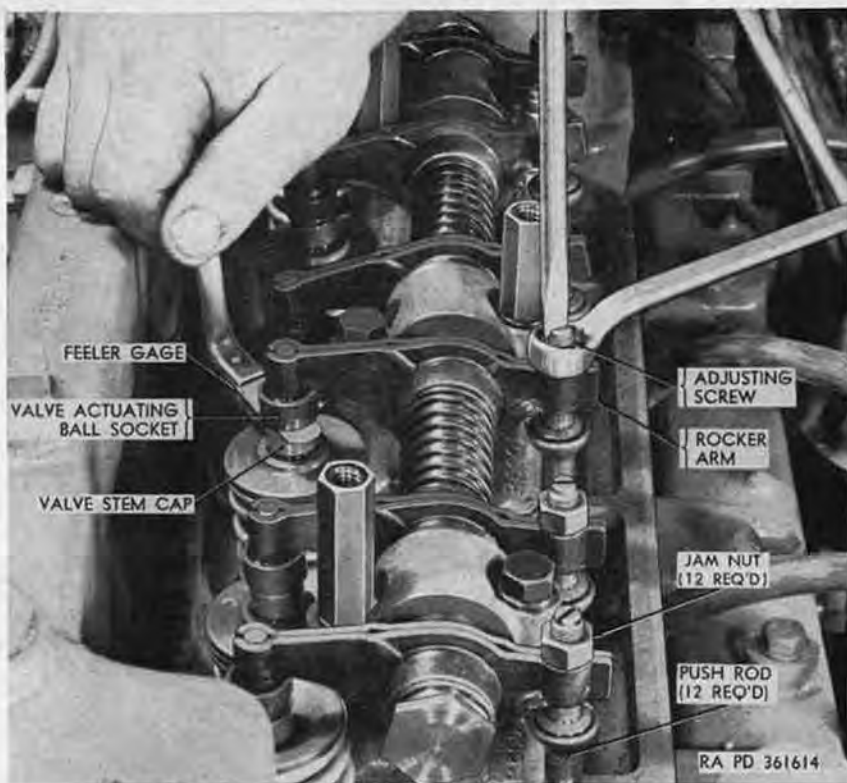
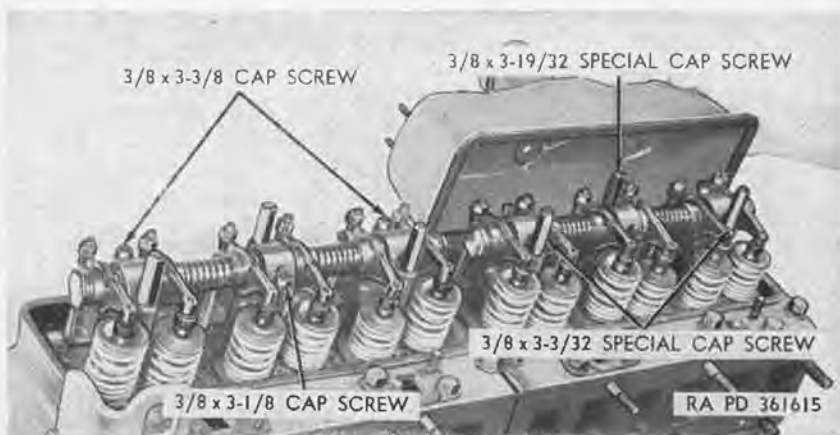
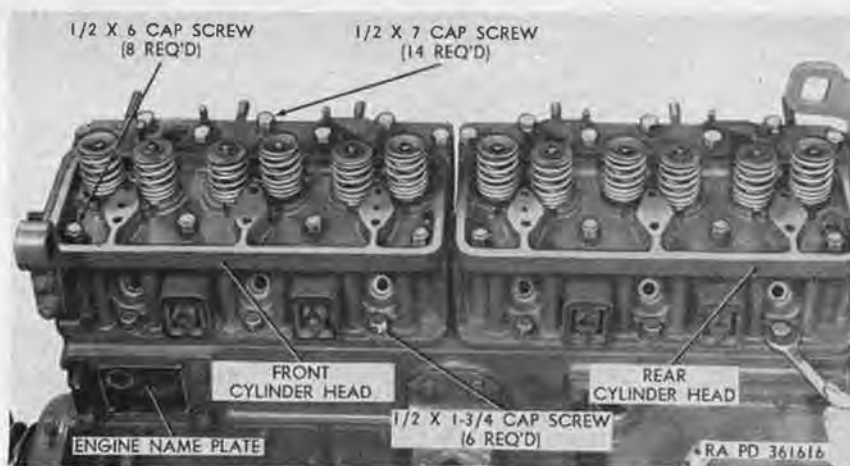
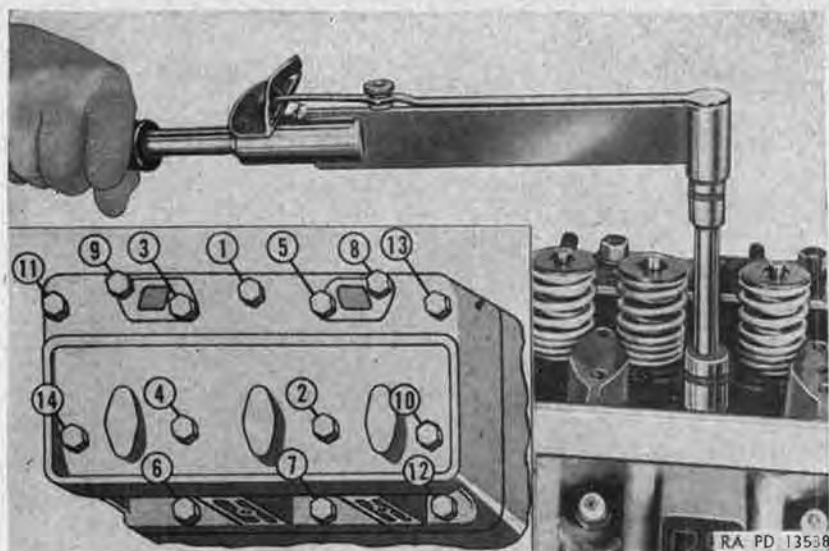

Figure 123. Adjusting valve clearance.
Figure 124. Top right view of engine with manifolds and rocker arm covers removed.
Figure 125. View of left side of engine showing location of head bolts.
Figure 126. Cylinder head bolt tightening sequence.
- (a) Disconnect vacuum line (H) from elbow at intake manifold.
- (b) Disconnect distributor vent line (X) from tee at intake manifold.
- (1) Start engine and check temperature gage (par. 31) to be sure that engine coolant is still at normal operating temperature.
- (2) With engine idling, insert feeler gage between valve stem cap (fig. 123) and valve actuating ball socket at each valve to check for proper clearance (par. 106c).
- (3) If clearance is incorrect, using a wrench and screwdriver, loosen valve-adjusting-screw-jam nut (fig 123) and turn adjusting screw (clockwise to decrease, counterclockwise to increase) until proper clearance is obtained.
- (4) Hold screw in adjusted position, tighten jam nut, and again check clearance.
- (5) Repeat (2), (3), and (4) above until all valves are adjusted to recommended clearance.
- (1) Remove intake and exhaust manifolds (par. 110).
- (2) Remove water inlet header and water-outlet-header assembly (par. 139).
- (3) Remove valve rocker arm covers (par. 108b).
- (4) Remove 12 cap screws (fig. 124) securing 6 valve rocker arm shaft supports (fig. 123) to top of front and rear cylinder heads, and remove front and rear rocker arm assemblies.
- (5) Lift 12 valve push rods (fig. 123) from front and rear cylinder heads, and remove 12 valve stem caps from intake and exhaust valves.
- (6) Remove water pump retaining nut and washer from stud on front end of front cylinder head.
- (7) Remove 28 cylinder-head screws (14 from each head) (fig. 125), and lift front and rear cylinder head assemblies from crankcase. Remove and discard both cylinder head gaskets.
- (3) Place front and rear cylinder head assemblies in position on crankcase and install the 28 cylinder head screws (fig. 125). Using a torque wrench, tighten the head bolts to 110 pound-feet (maximum) in the sequence shown in figure 126.
- (4) Install water pump retaining nut and washer on stud on front end of front cylinder head, tighten nut.
- (5) Insert 12 valve push rods (fig. 123) in holes in front and rear cylinder heads, and install 12 valve stem caps on intake and exhaust valves.
- (6) Place front and rear rocker arm assemblies in position on top of front and rear cylinder heads, install four $\frac{3}{8} \times \frac{3}{32}$
special cap screws (fig. 124), two $\frac{3}{8}$ x $3\frac{19}{32}$ special cap screws, four $\frac{3}{8}$ x $3\frac{3}{8}$ cap screws, and two $\frac{3}{8}$ x $3\frac{1}{8}$ cap screws in holes in rocker arm shaft supports; tighten cap screws to 25 to 35 pound-feet.
- (10) Start engine (par. 45).
- (11) After engine is thoroughly warmed up, using a torque wrench, tighten the cylinder-head bolts to 110 pound-feet (max) in the sequence shown in figure 126.
- (12) With engine idling, check valve clearance and adjust, if necessary (par. 108).
- (13) Install valve rocker arm covers (par. 108).
- (14) Before stopping engine, make final check for leaks in cooling and exhaust systems.